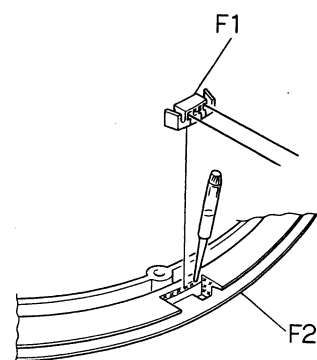

Fig. 5.3
- (4) Refer to Fig. 5.3. Mount F1 (wire holder) on the wire holder fixing point of F2 (dial pulley). At this time, thoroughly remove the adhesives possibly remained before dripping a few drops of AVDEL BOND #C-2 onto the three points prepared at the end face for fixing.